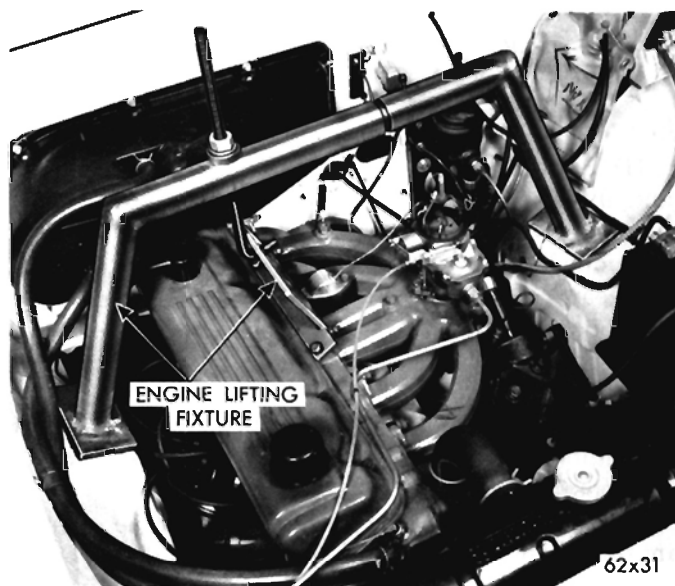

Fig. 60—Engine Lifting Fixture (6-Cyl. Engine)
(17) Remove the two bolts securing the extension housing to the crossmember insulator.
(18) Install an engine support fixture, Tool C-3487 (8 cyl. engine) or Tool C-3809 (6 cyl. engine) and raise the engine slightly (Fig. 60 or 61).
(19) Remove the crossmember attaching bolts and remove the crossmember, insulator and spring assembly.
(20) Place a transmission service jack under the transmission to support the assembly.
(21) Attach a small "C" clamp to edge of the bell housing to hold the converter in place during removal of the transmission.
(22) Remove the bell housing retaining bolts. Carefully work the transmission rearward off the engine block dowels and disengage the converter hub from the end of the crankshaft.